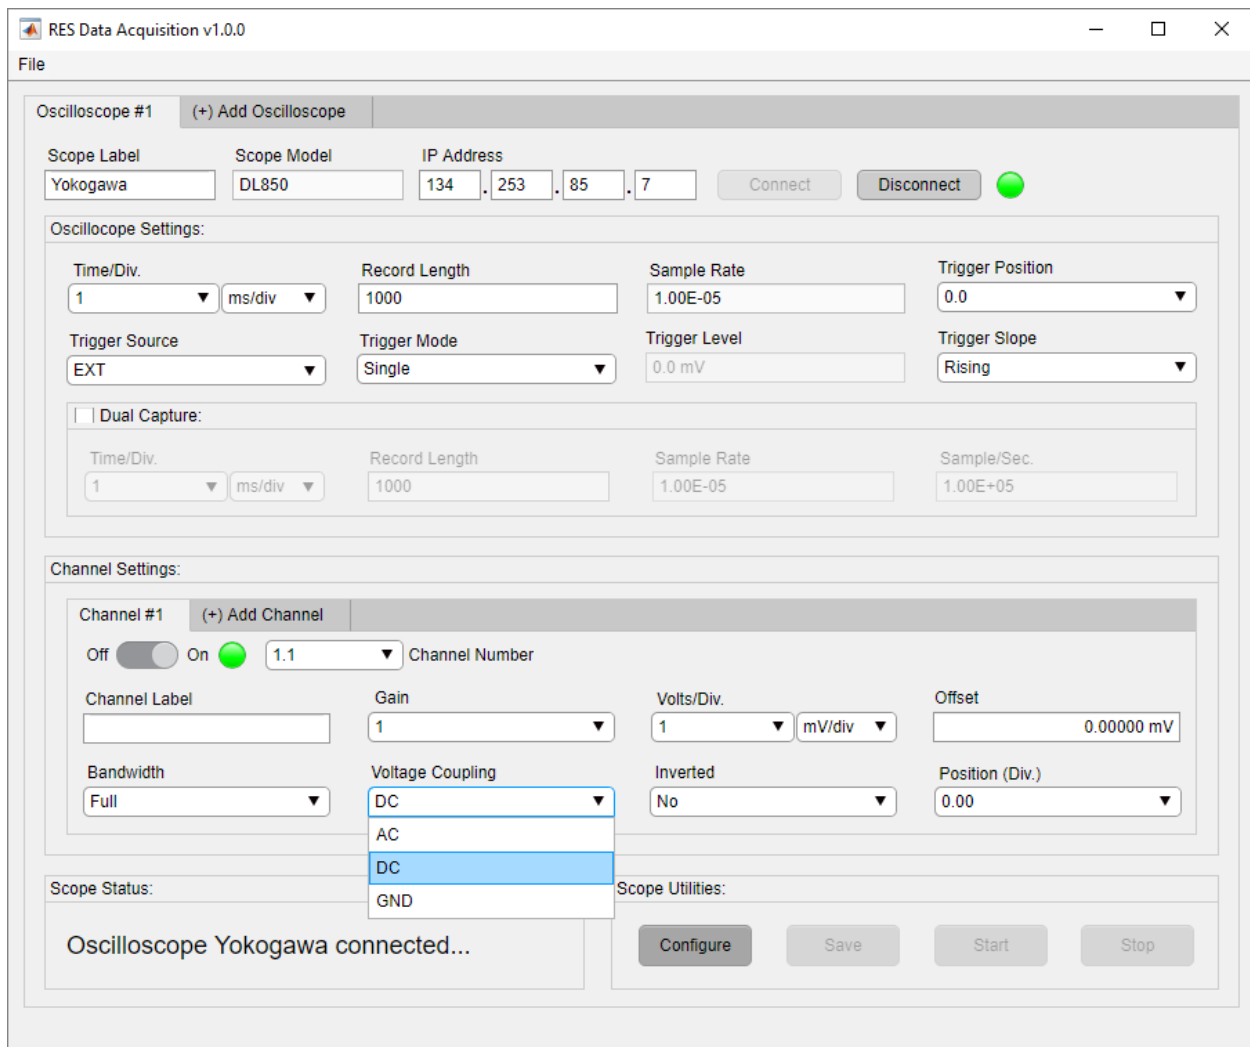

Figure 3-56. Input Voltage/Vertical Coupling
The Voltage Coupling, also known as Vertical Coupling, is located in the currently selected channel tab. The coupling allows the user to visually inspect Alternating Current (AC) and Direct Current (DC) components of a signal. Click the down arrow to select a desired coupling value as shown in Figure 3-56.